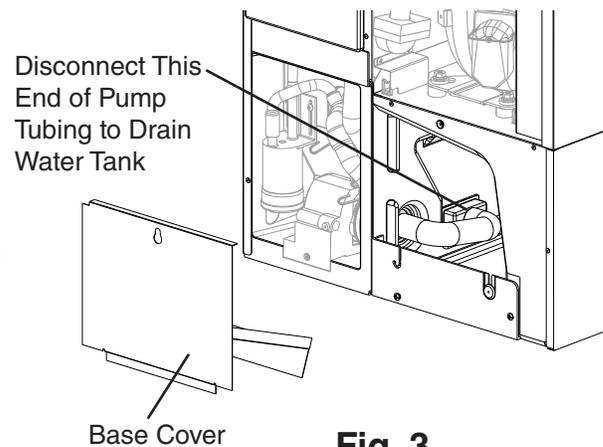

Fig. 3
- 2) Remove the base cover, then disconnect one end of the pump tubing to drain the water tank. See Fig. 3. After the water tank has drained, reconnect the pump tubing.